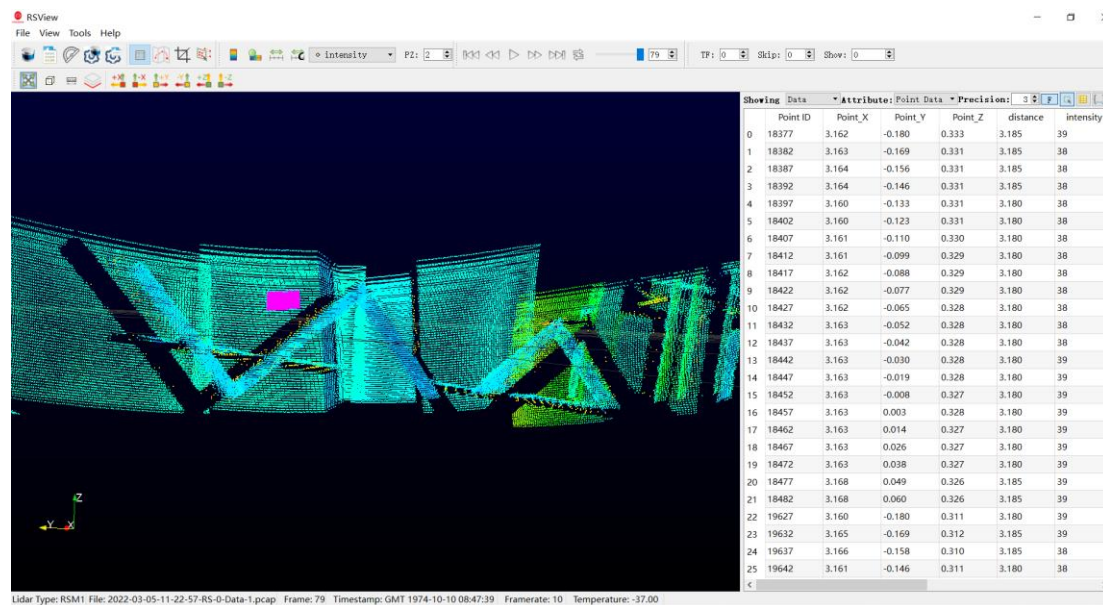

Figure A-18 RSView List Selected Points
7. Click **Show only selected elements** in the spreadsheet, only the data of selected points will be displayed. If no point is selected, there will be no data shown in table (Fig. A-18).
9. In the 3D point cloud display space, use the mouse to draw a rectangle to frame some data points. The data of these points will be displayed in the **Spreadsheet** and these points will turn pink in the point cloud display space (Figure A-18).